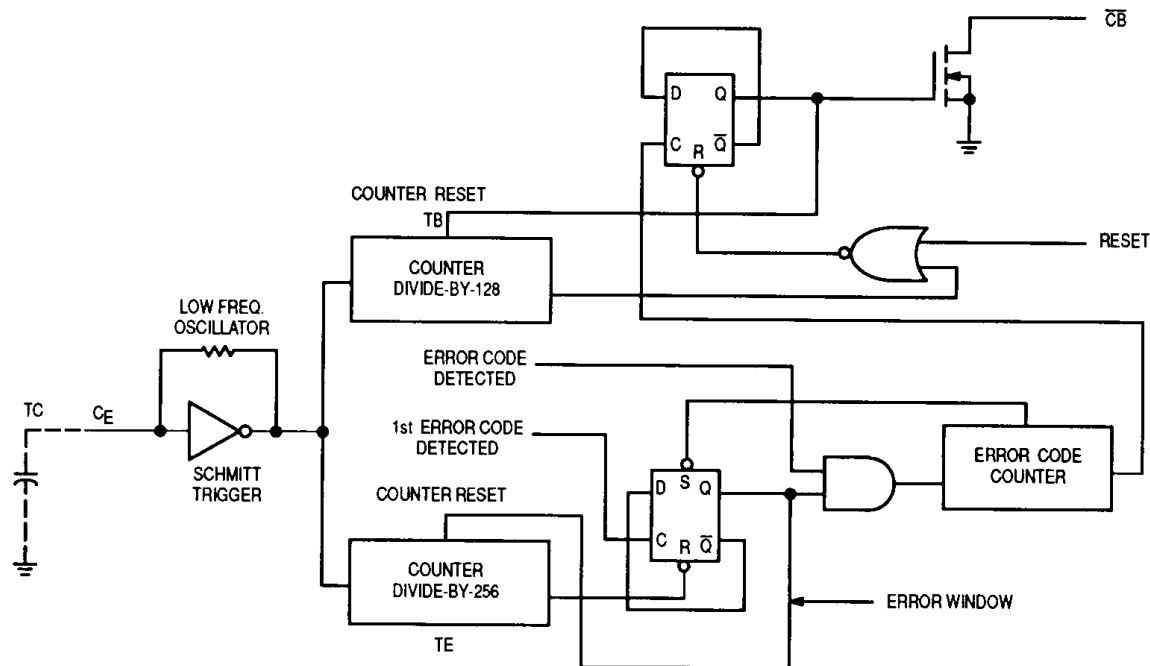

Figure 8. Error Window TE and Code Break Window Generator TB
If only one error code is detected within the window, the window period is automatically extended from the last invalid word to check if there are two or more error codes. If so, the code break signal is activated; if not, TE is closed after a defined period. See Figures 8 and 11.
TE and TB are generated from a schmitt-trigger low frequency oscillator of which the period (TC) is controlled by the timing capacitor C_E . The period of this low frequency oscillator is defined as TC as indicated in Figure 8.